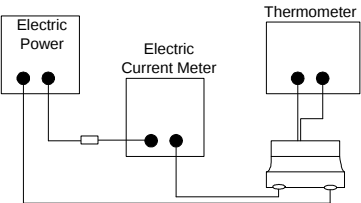

Fig. 5.3.4-1
- b. Test equipment (**see Fig. 5.3.4-1, Fig. 5.3.4-2**): Electric Power, Electric current meter, Thermometer.